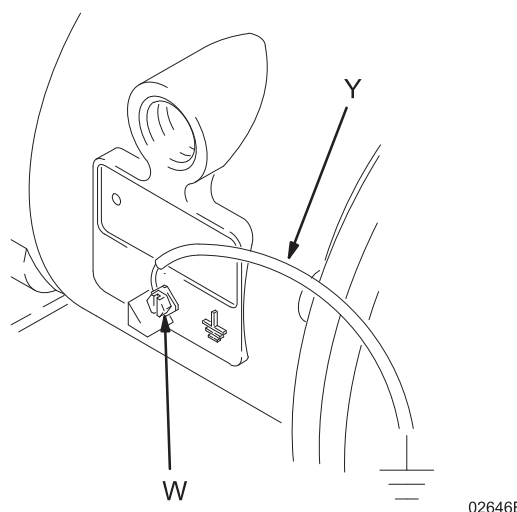

Fig. 1
- *Pump:* loosen the grounding screw (W). Insert one end of a 12 ga (1.5 mm²) minimum ground wire (Y) behind the grounding screw and tighten the screw securely. See **Fig. 1**. Connect the clamp end of the ground wire to a true earth ground. Order Part No. 819.0157 Ground Wire and Clamp.